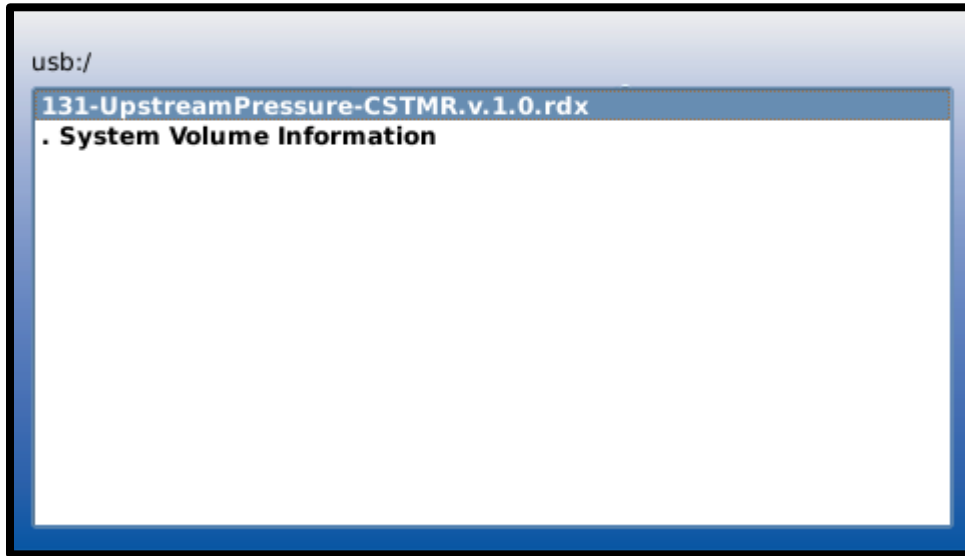

Figure 5.4
- c. Press "right" to load the ValvApp from the USB thumb drive. Wait for the next screen and highlight the custom ValvApp (131-UpstreamPressure-CSTMR.v.1.0 used for example) as shown in **FIGURE 5.4**. Press "OK".